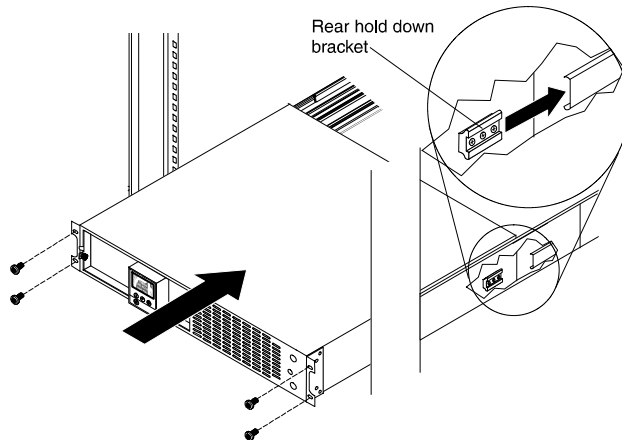

Figure 13. Installing the Cabinet in the Rack
15. Align the rear hold down brackets on the sides of the UPS or EBM with the inner rails. Carefully slide the UPS or EBM into the rack cabinet. See Figure 13.
16. Secure the front of the UPS or EBM to the rack cabinet with four M5×16 mm screws, as shown in Figure 13.